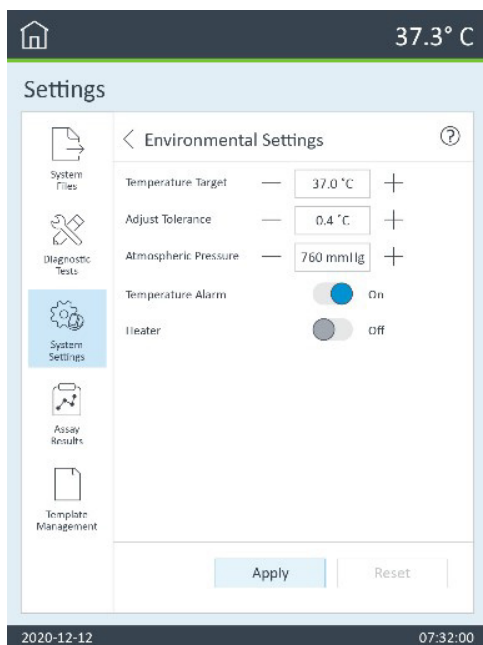

Figure 20. Temperature alarm window.
- b Temperature alarm:** When enabled, the XFp Analyzer will automatically notify users (**Figure 20**) when the tray temperature of the XFp Analyzer is out of the acceptable range, as specified by the temperature tolerance above (only while running an assay on the XFp Analyzer).